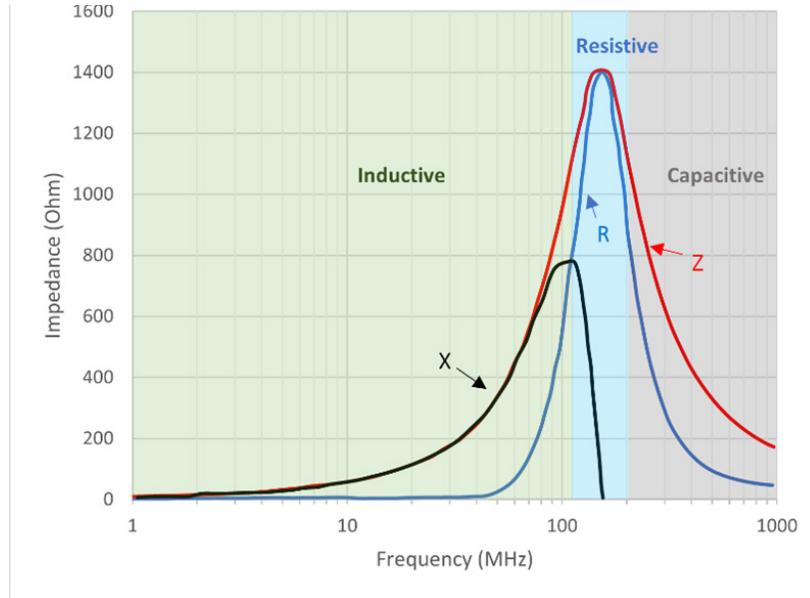

Figure2 : Frequency characteristics of AFBC-Q0805G-102
The crossover point is where the reactance (X) curve crosses the resistance (R) curve. The significance behind this point is that it is designated as a barrier between the inductive and resistive bands of the ferrite beads. This allows designers to know what noise frequencies the ferrite beads attenuate the best, as the end goal is to ensure that the noise falls within the resistive band. Figure 2 below shows the frequency characteristics of Abracon's AFBC-Q0805G-102 ferrite bead. The crossover frequency for this part is near 100MHz. This is where the bead starts to display resistive characteristics, which makes this bead good for applications where noise is between 100MHz and 200MHz. However, this graph only tells part of the story, as the operating conditions have a direct influence on the frequency characteristics and will be discussed later in this paper.